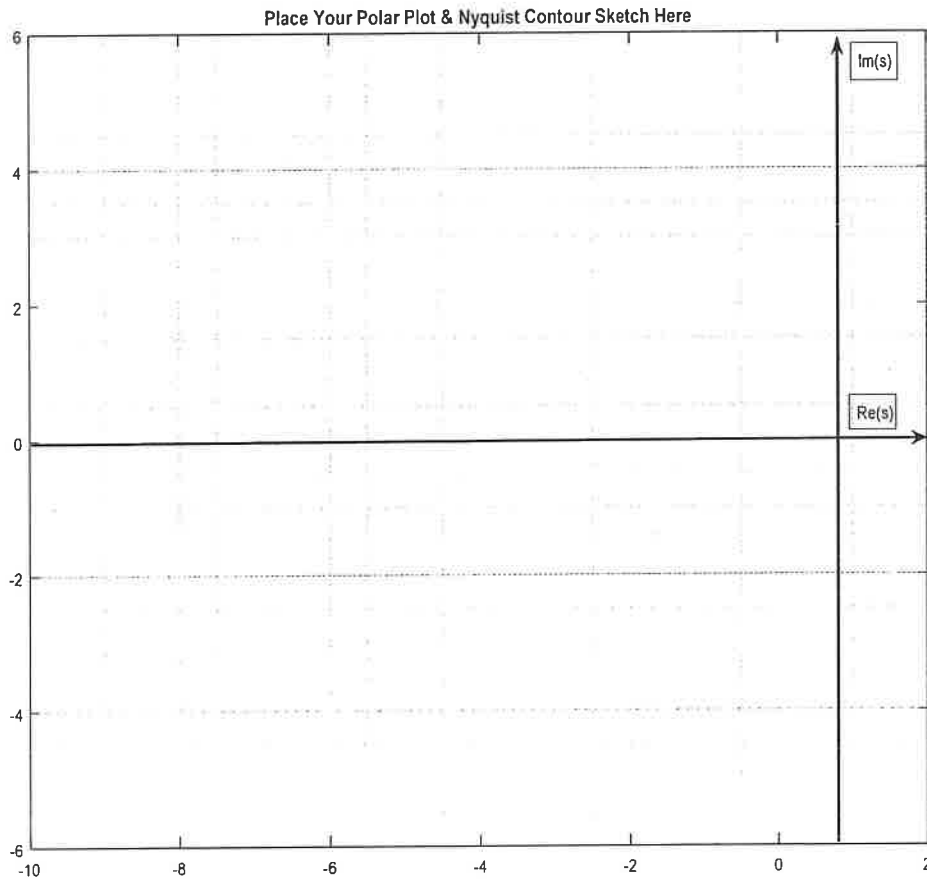

Figure Q5.1 – Space for Polar Plot and Nyquist Contour Sketch for Question 5
- 2) (12 marks) Apply the Nyquist criterion of stability to establish the range of values of the Proportional Controller gain, K_p , that will result in a stable closed loop system response. NOTE: Assume the clockwise (CW) Γ path in the s-plane, and place the resulting Nyquist contour in Figure Q5.1, on top of the polar plot sketch.